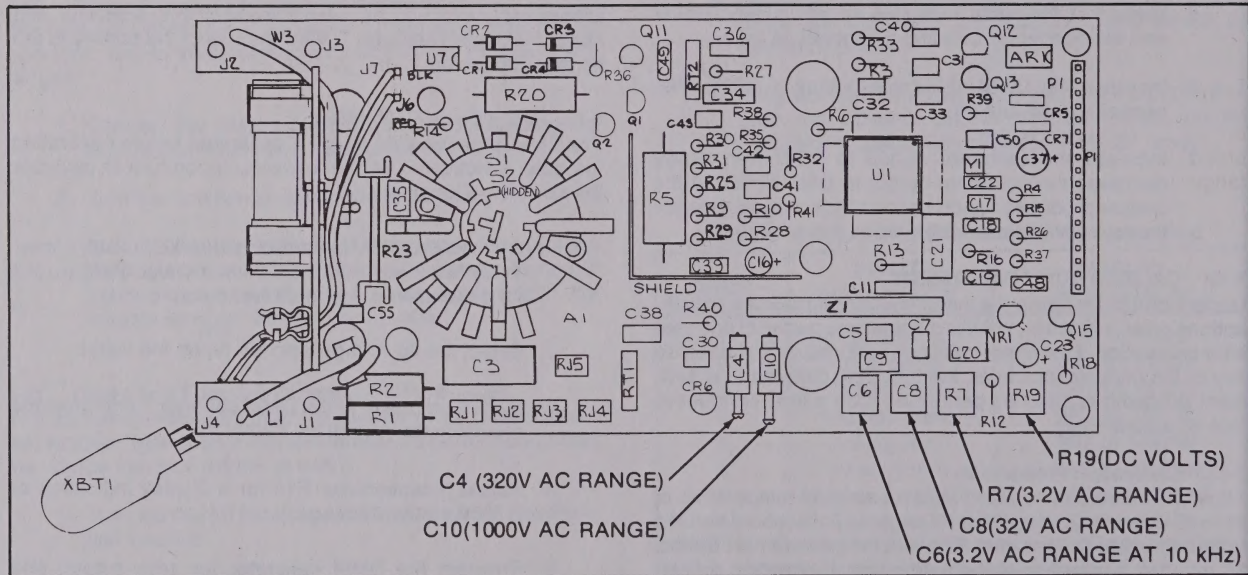

Figure 5-3. Calibration Adjustment Locations
1. Connect the DMM calibrator to the 8025B volts/ohms/diode test input jack and common. Refer to Figure 5-3 for calibration component locations.
Refer to the Figure 5-3, the component location diagram, and to the schematics in Section 7 of this manual as necessary during the following troubleshooting procedures.